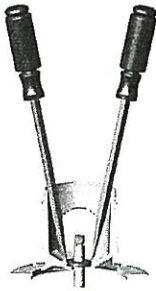

Figure 16 - Remove Mechanical Seal
To disassemble the pump, refer to the exploded parts view and Figures 16, 17 & 18
- b. Using two (2) screwdrivers, pry the ceramic seal and rubber gasket from the recess of the mounting ring (See Figure 16).